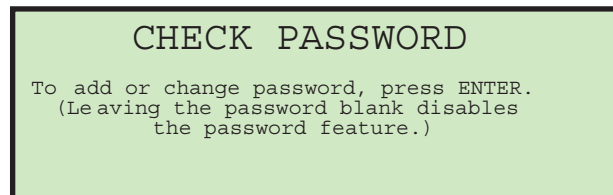

Figure 20: Check Password screen
2. Press Enter. The CHECK PASSWORD screen (Figure 20) will be displayed to remind the operator that leaving the password blank will disable the password feature.